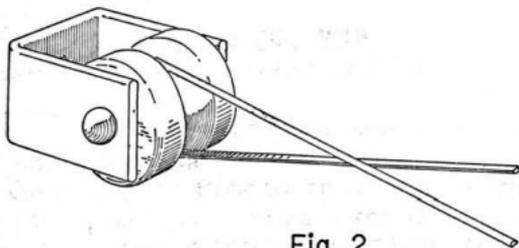

Fig. 2
- (1) Select a dead-end wire in accordance with the above table.
- (2) Place the dead-end wire in the wire groove of an insulator with the flat surface against the insulator.
- (3) Bend the center portion of the dead-end wire around the insulator so that the two end positions cross each other, as shown below in Fig. 2.